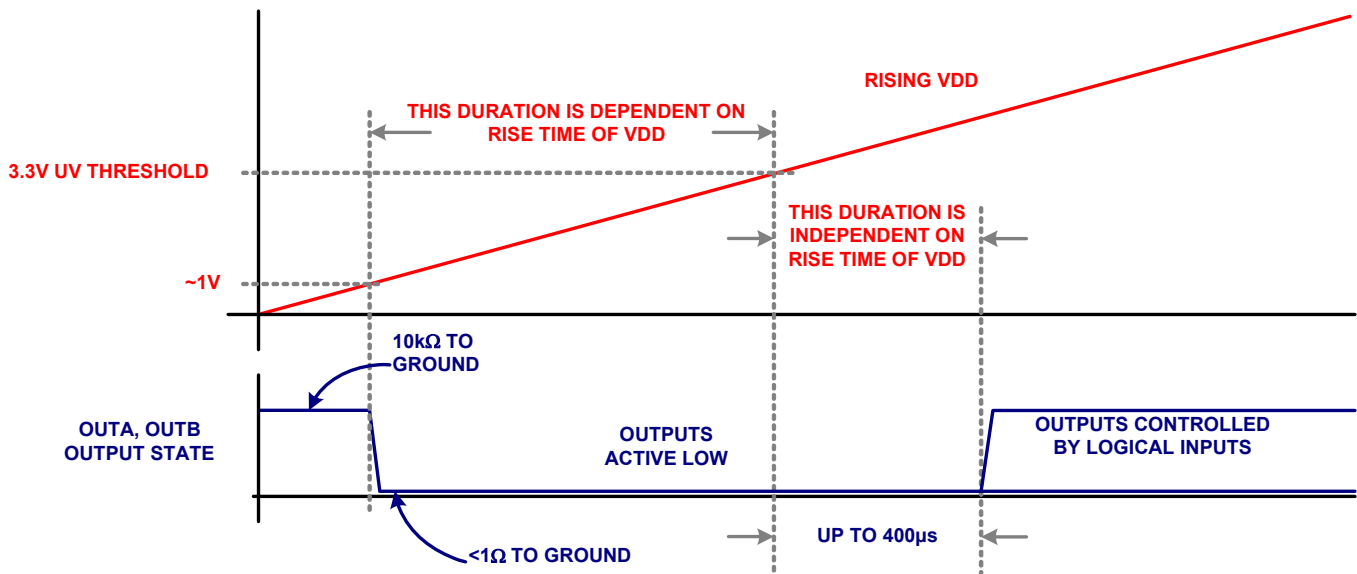

FIGURE 9. START-UP SEQUENCE
9. A 400 μs delay further inhibits the release of the output state when the UV positive going threshold is crossed. See Figure 9
The start-up sequence for is designed to prevent unexpected glitches when V_{DD} is being turned on or turned off. When $V_{DD} < \sim 1V$, an internal $10k\Omega$ resistor connected between the output and ground, help to keep the gate voltage close to ground. When $\sim 1V < V_{DD} < UV$, both outputs are driven low while ignoring the logic inputs. This low state has the same current sinking capacity as during normal operation. This insures that the driven FETs are held off even if there is a switching voltage on the drains that can inject charge into the gates via the Miller capacitance. When $V_{DD} > UVLO$, and after a $400\mu s$ delay, the outputs now respond to the logic inputs. See Figure 9 for complete details.